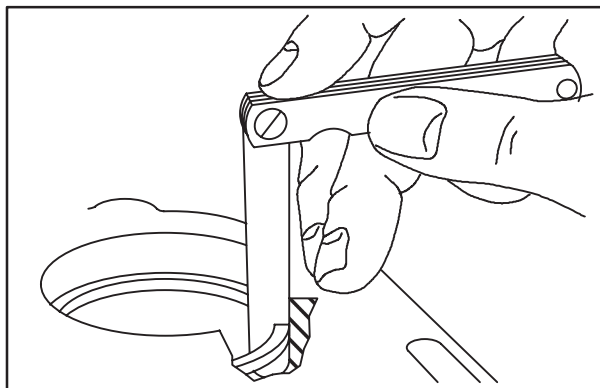

Fig. 4
2. Check ring end gap, **Fig. 4**. Clean carbon from end of rings and insert approximately **1" (25 mm)** into cylinder.